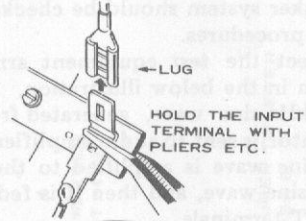

Fig. 1
3. Disconnect lugs from speaker terminals, taking care not to lose terminals. Fig. 1.